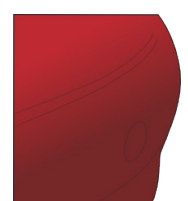

Figure 17
- › The application is completed. (FIG. 17)
! As regards the SKINTAC HX45000 films with structured effects (carbon effect), particular care must be taken when heating the stretched film. (FIG. 12) to (FIG. 17) The hot air gun or the gas torch must never be held at a right angle to the surface of the film. It should be inclined so as to heat a larger surface area. Keep the hot air gun moving all the time. Never heat a small surface area over a prolonged period.